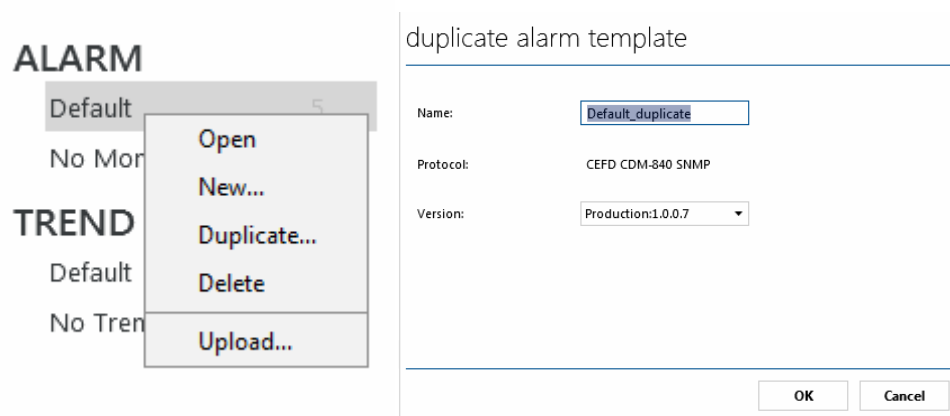

Figure 8-9 Duplicate Alarm Template
4. Set the protocol version. See Figure 8-9.